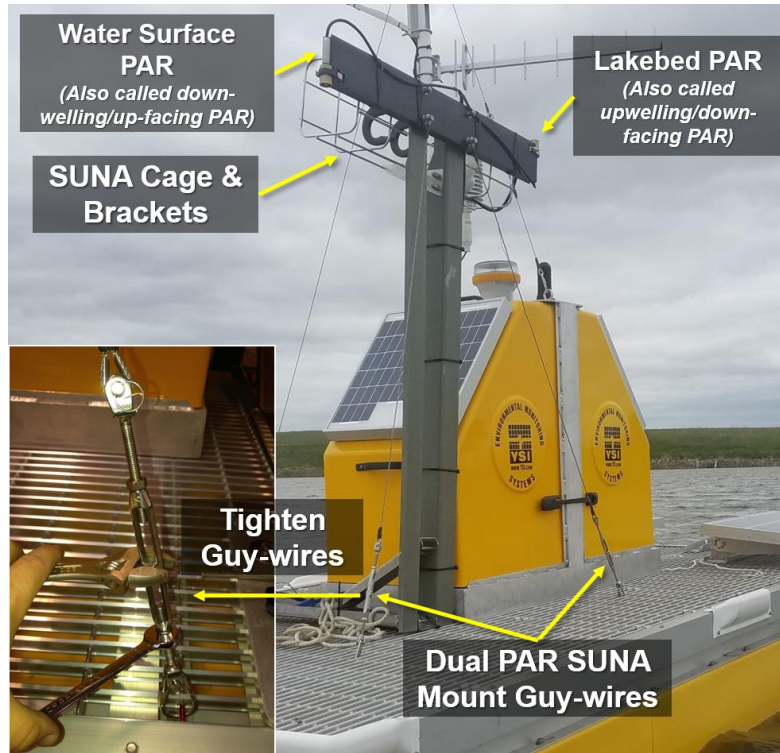

Figure 23. Dual PAR SUNA Mount in an Upright Position with Guy-wires for Transport
6. Secure the Dual PAR SUNA Mount for towing by tightening the two guy-wires when the mount is upright on the floating deck (see Figure 23). Tighten guy-wires for stability: tight, but low in tension.
- c. Retighten jam nuts after tightening turnbuckles (see Figure 23).